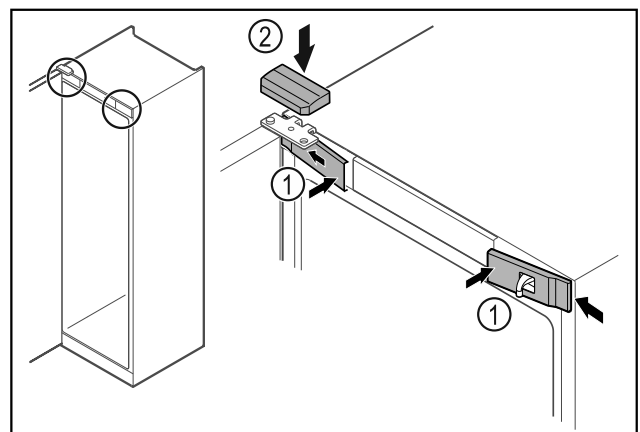

Fig. 38
- Hook in the front covers Fig. 38 (1) on the side and snap them into place.
- Snap on the top cover Fig. 38 (2) from above.